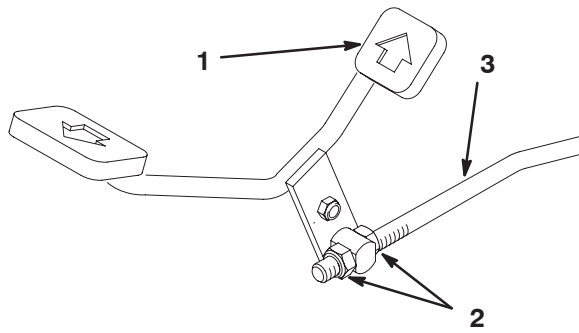

Figure 25
- Loosen the jam nuts on the control rod (Fig. 25).